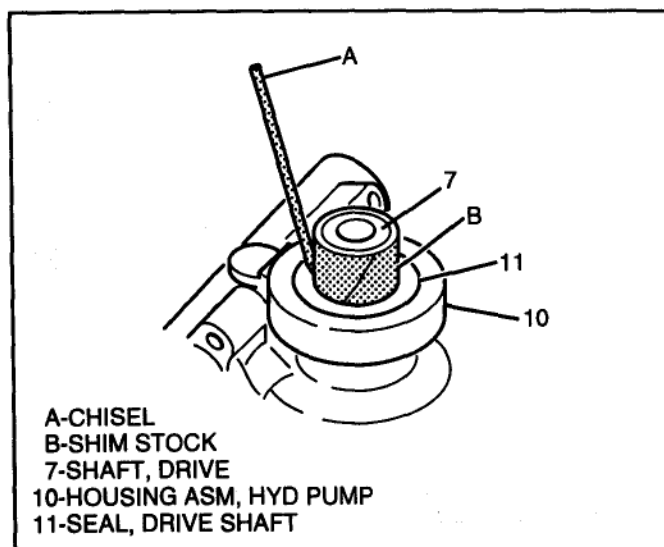

Figure 3 Shaft Seal Removal
Figures 3 and 4
2. Protect drive shaft (7) with shim stock (see Figure 3).
3. Seal (11) and discard. (Use small chisel to cut drive shaft seal.)